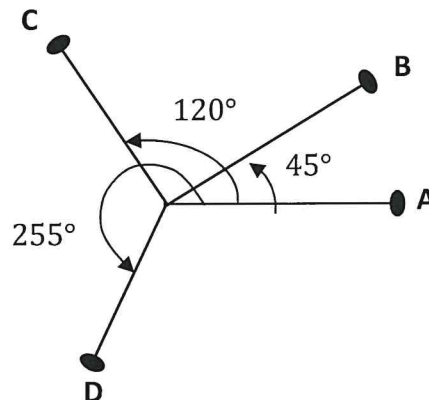

Figure Q3(a) / Gambarajah S3(a)
- (a) Four masses A, B, C and D are 100 kg, 150 kg, 120 kg and 130 kg respectively are affixed to a shaft and rotated around the similar plane. The attached radius of rotations are 22.5 cm, 17.5 cm, 25 cm and 30 cm respectively along with the angles measured from A are 45° , 120° and 255° as shown in the **Figure Q3(a)**. Obtain the magnitude and position of the balancing mass, in case of the radius of revolving is 60 cm.